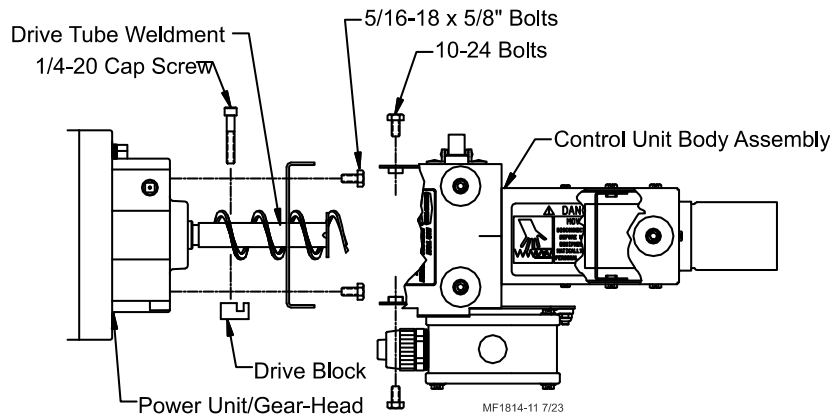

Figure 24. Control to Power Unit Ass'y
1. Remove the four 5/16-18x5/8" bolts from the parts package and use them to bolt the Anchor Plate to the Power Unit. Install the Anchor Plate with the angled end pointing down, see figure 24.
2. Bolt the Control Unit Body Assembly to the Power Unit, using hardware supplied, see figure 24.
9. Mount the control unit on the end of the feeder line and secure with a tube clamp. **See figure 24 (on page 21).** The distance between the control unit pan and the last pan should be five feet (1.5 m) or less.